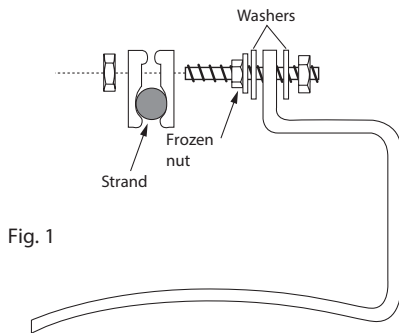

Fig. 1
1. Attach lashing wire clamps to bracket, then attach bracket to strand (Fig. 1)